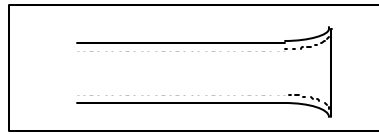

Fig. 18 Tube after being flared
- Move the lever forward to flare the tube (see Fig. 18).